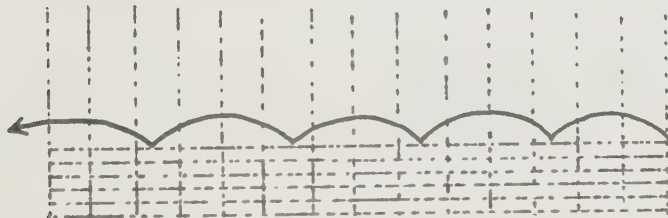

Fig. 52 The tapestry weft
3. Open shed, carry weft through. Keep shed open and warp very loose. Starting from the side from which the weft came, with a finger draw the weft down to the cardboard in scallops $1\frac{1}{2}$ inches or so apart. See Fig. 52 .